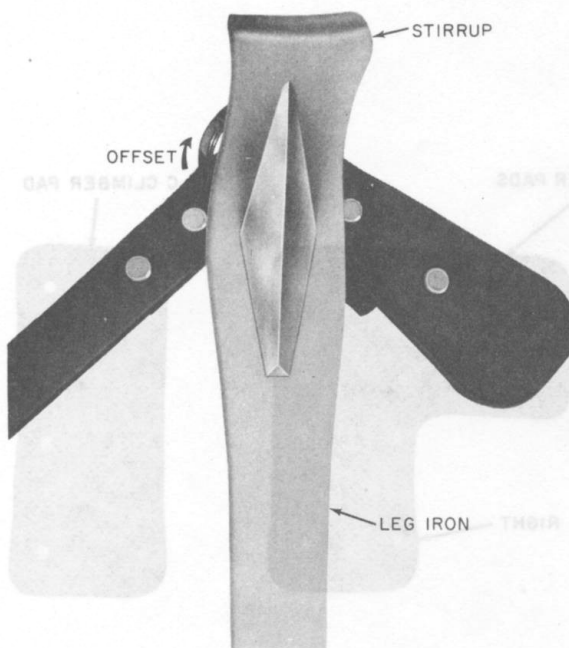

Fig. 2—Stirrup Offset "Right"
**2.05** F climbers have offset stirrups, therefore, they are made for the left or right foot and are marked "L" or "R" just below the ring loop at the end of the stirrup. Some older climbers may not have been marked. Climbers can be identified as left or right by holding the climber with the gaff toward you and pointing up and noting the direction the stirrup is offset. If the offset is to the right as shown in Fig. 2, it is a right climber; conversely, if the offset is to the left, it is a left climber.